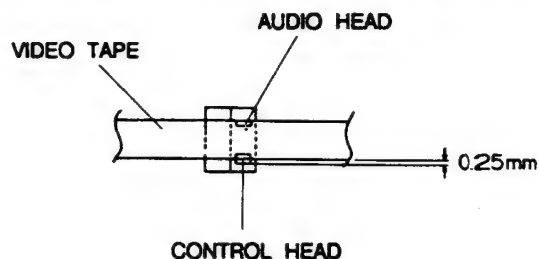

Fig. 5 Head Height
3. Turn the A/C height adjusting nut until the gap of lower tape edge and the lower edge of the control head is about 0.25mm shown in Fig. 5.